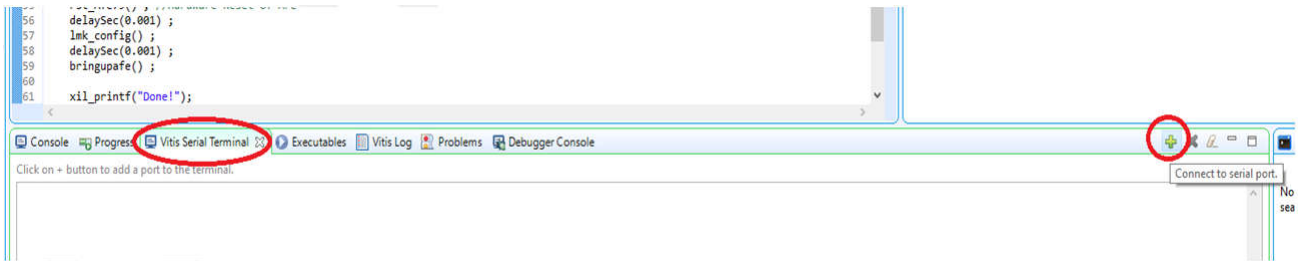

Figure 15-2. Vitis Serial Terminal
2. Connect the Vitis Serial terminal (see Figure 15-2) with baudrate 115200 (this can be used to see SPI write or read status).